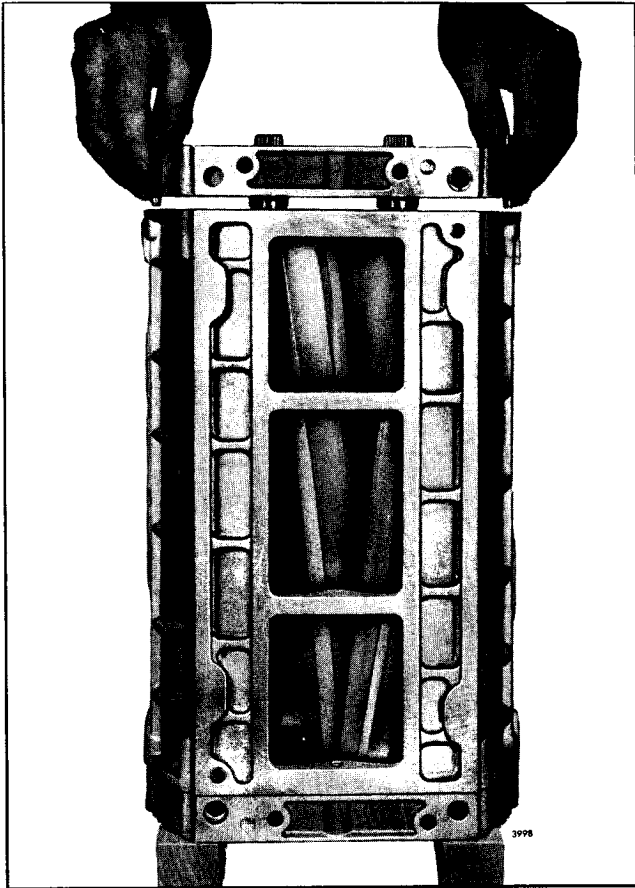

Fig. 15 - Installing Rear End Plate on Blower Rotors and Housing
6. Position the blower housing over the rotors, rear end of housing up, with the bottom of the housing facing toward the bottom of the end plate (Fig. 15). Lower the housing over the rotors and start it straight on the dowel pins in the front end plate, then push it down tight against the end plate. If necessary, tap the housing lightly with a plastic hammer.
- d. Lower the end plate straight over the rotor shafts until the dowel pins in the end plate contact the blower housing (Fig. 15), then carefully work the dowel pins into the dowel pin holes in the housing and push the end plate tight against the housing. If necessary, tap the end plate lightly with a plastic hammer.